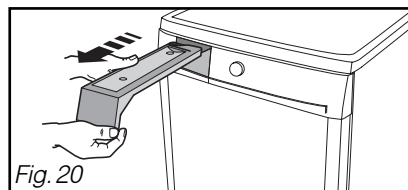

Fig. 20
- Remove the water recovery tank (see fig. 20 on the next page).
– To empty it, release it from its housing by pulling it towards you (Fig. 20).